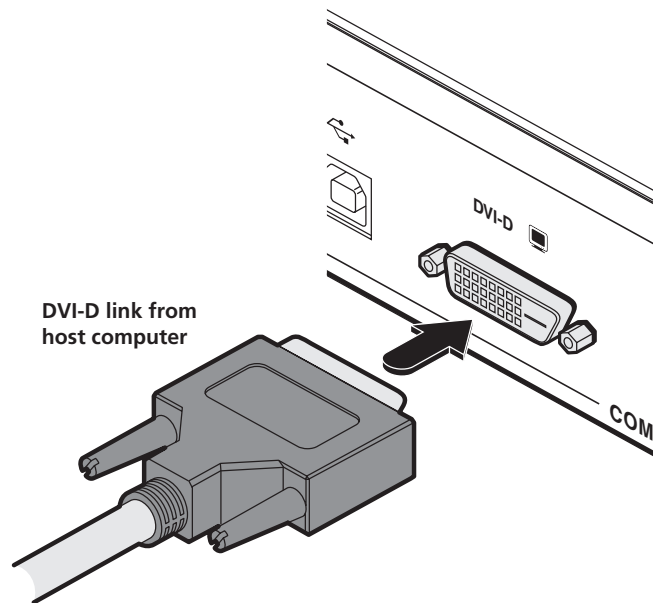

Figure 3-3. Connect a standard DVI-D link cable to the DVI-D socket.
- 2 Connect a standard DVI-D link cable to the DVI-D socket on the Local unit rear panel. See Figure 3-3.